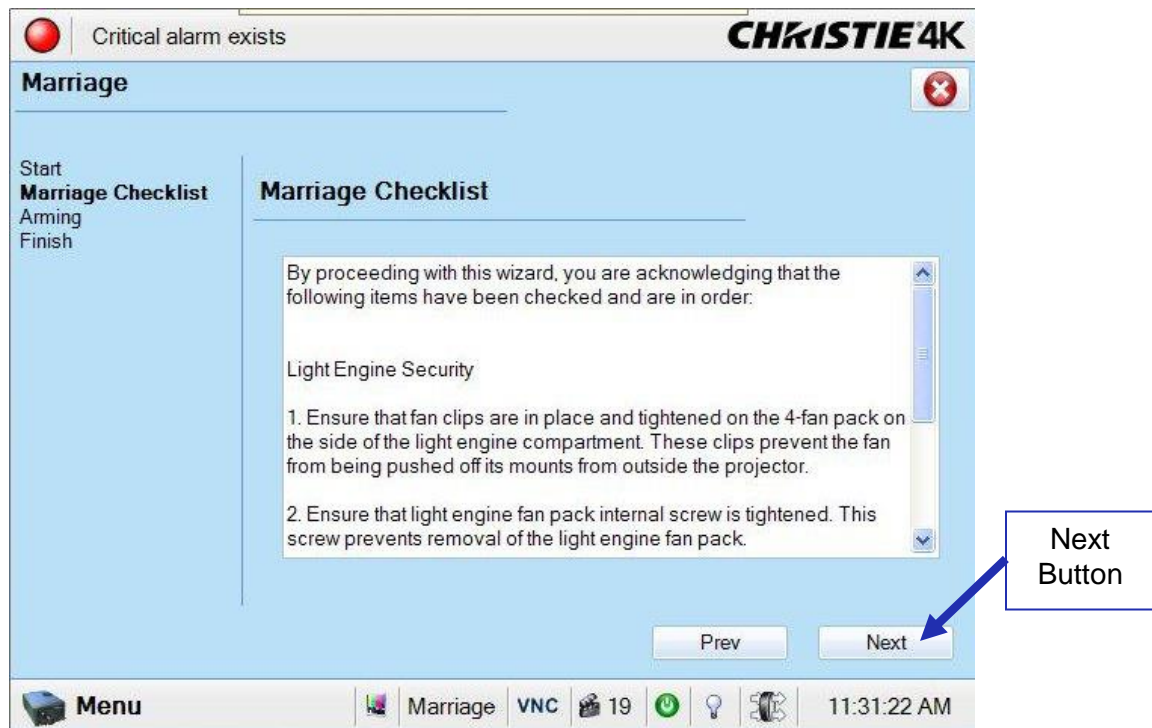

Figure 89: Marriage Checklist
- When the Marriage Checklist window appears, click Next (Figure 89).